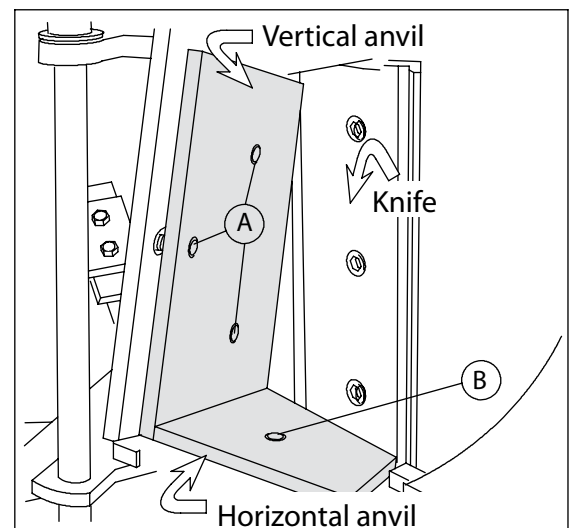

Fig 21. Anvil fastening bolts
The chipper features both a vertical and horizontal anvil. To remove the anvils, open the fastening bolts (A) and (B) (M16). The horizontal anvil fastening bolt (B) is located below the feed opening. Fig. 21.